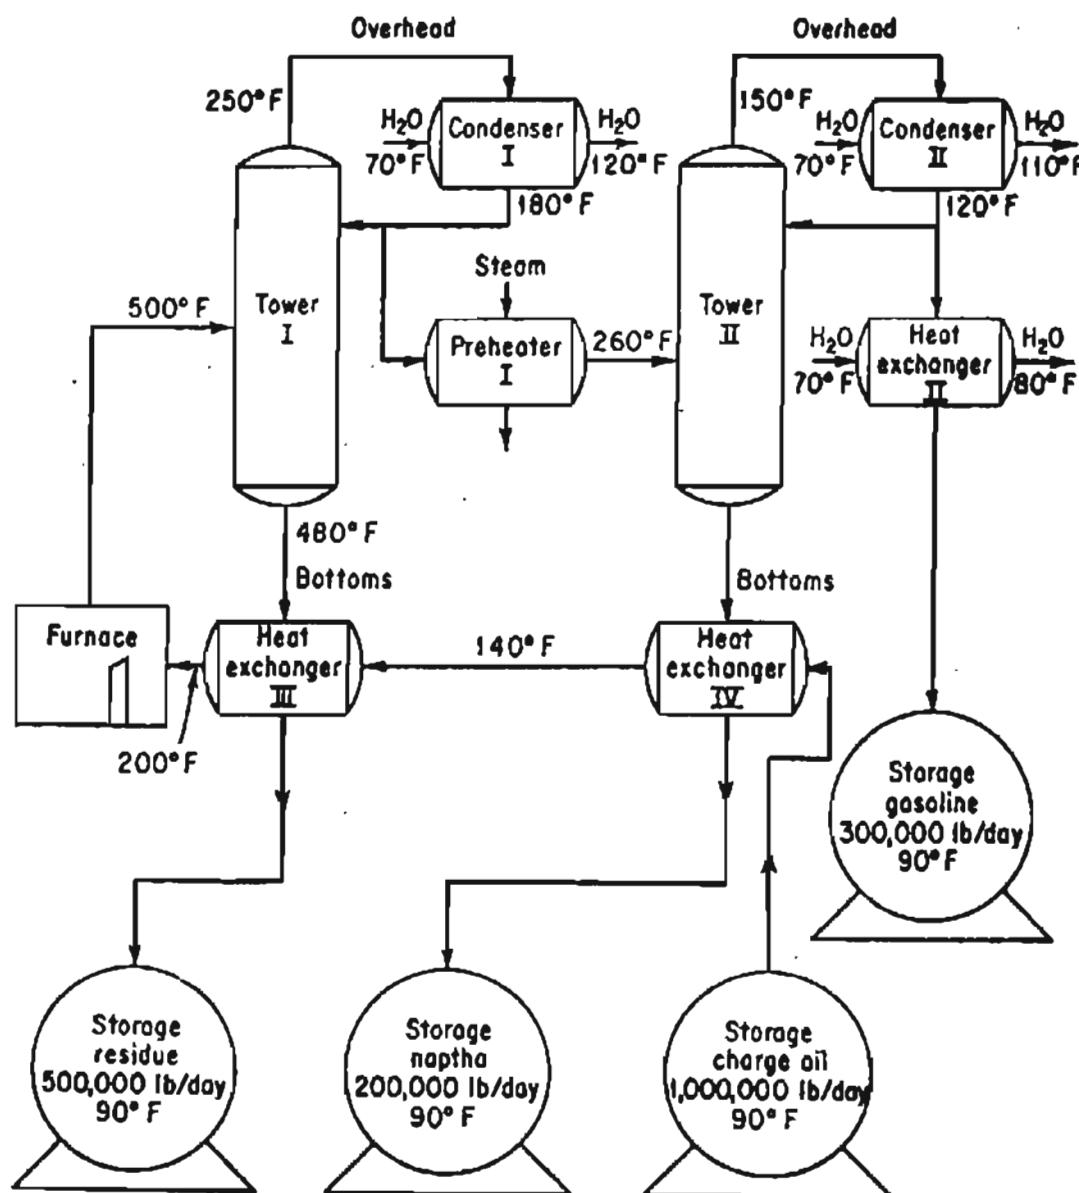

Figure P24.38
- ***24.38** The initial process in most refineries is a simple distillation in which the crude oil is separated into various fractions. The flow sheet for one such process is illustrated in Fig. P24.38. Make a complete material and energy balance around the entire distillation system and for each unit including the heat exchangers and condensers. Also,